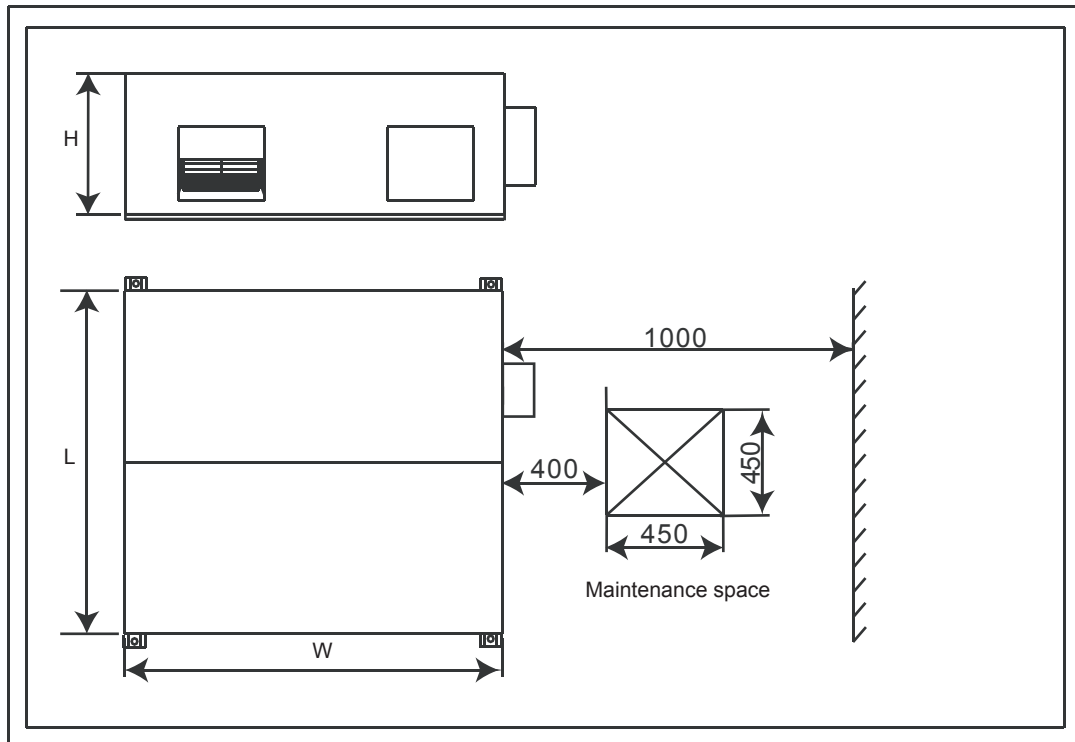

Fig. 3-3 Detail structure specification and maintenance space
- The installation dimension and maintenance space. (See the following attached picture Fig.3-3 )